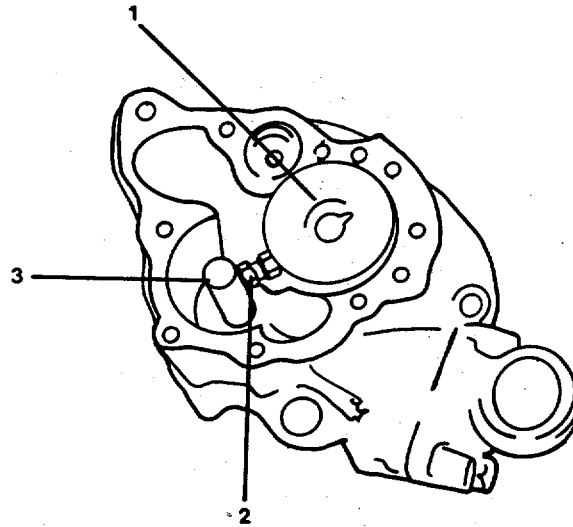

FIGURE 3-66. *Install the Guide Bushing into the Gear Pocket.*
- a. Check idler shaft (22) for damage. Replace if damaged.
- b. Check dowel pins (8) in the pump body (31) for damage. Use dowel puller P/N ST-1134 to remove damaged pins.
- c. Check drive shaft (30) for damage.
- e. Check pump body (31) for cracks, worn bushing threads or scratched gasket surfaces.
- f. Use bushing mandrel, P/N ST-1158, and push bushings (24, 28) from pump body (31), cover (23) and gears (25, 27 and 34).
- g. Use bushing mandrel, P/N ST-1158, to push new bushings (24, 28) into body (31), cover (23) or gears (25, 27 and 34). Bushings must be even with or 0.020 inch (0.51 mm) below surface of body (31), cover (23) or gears (25, 27 and 34).
- h. Use lubricating oil pump boring tool to cut the bore in the new bushings in the pump body (31).
- (1) Install the guide bushing (1, FIGURE 3-66) into the gear pocket. Tighten the capscrew (2) against the side of the gear pocket to hold the guide bushing in position.